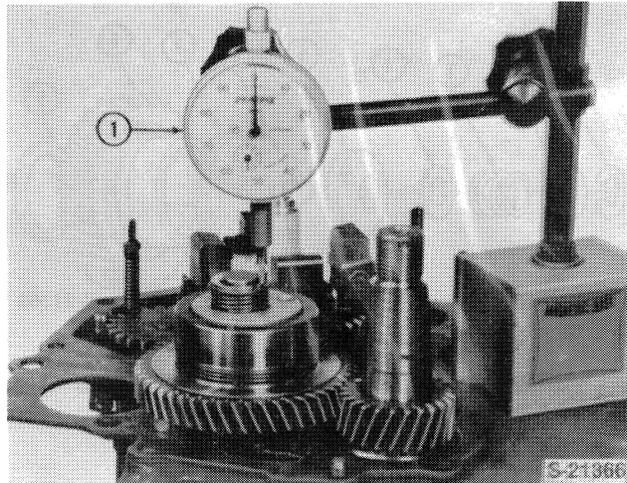

Figure 44
4. Using a dial indicator against the pump cover as shown, Figure 44, measure the inner rotor end clearance against spring pressure. The rotor cover movement against the spring should not be less than 0.004 in. (.10 mm) or more than 0.008 in. (.20 mm).